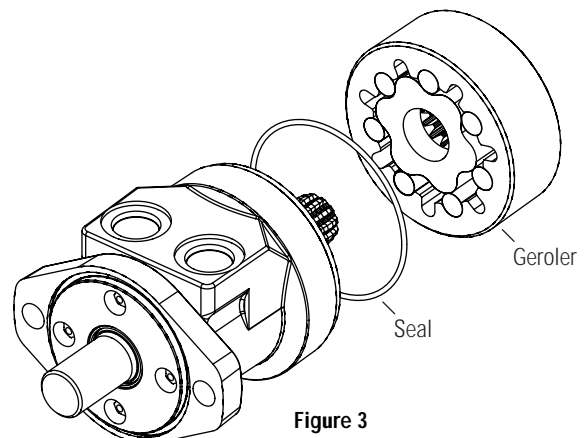

Figure 3
5. Remove Geroler—retain rollers in the outer Geroler ring, see Fig. 3.
6. Remove seal from spacer plate, see Fig. 3.